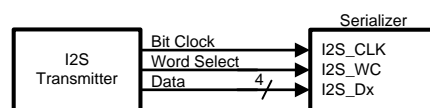
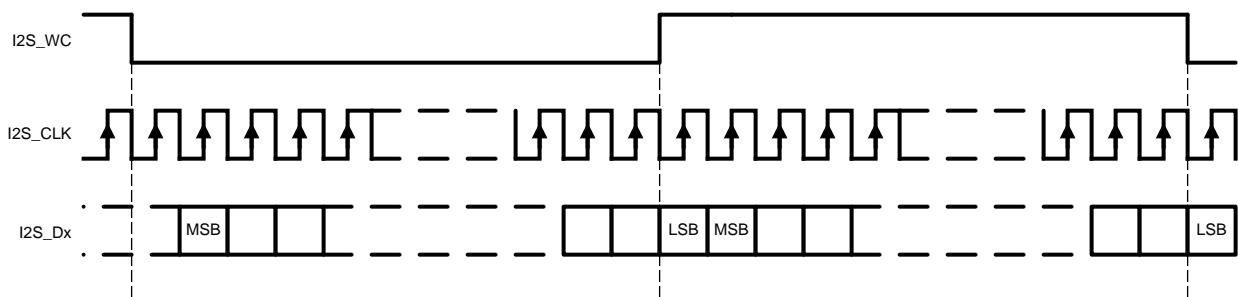

Figure 15. I2S Connection Diagram
Figure 16. I2S Frame Timing Diagram
The DS90UB949-Q1 serializer features six I2S input pins that, when paired with a compatible deserializer, supports 7.1 High-Definition (HD) Surround audio applications. The bit clock (I2S_CLK) supports frequencies between 1MHz and the lesser of IN_CLK/2 or 13MHz. Four I2S data inputs transport two channels of I2S-formatted digital audio each, with each channel delineated by the word select (I2S_WC) input. Refer to Figure 15 and Figure 16 for I2S connection diagram and timing information.